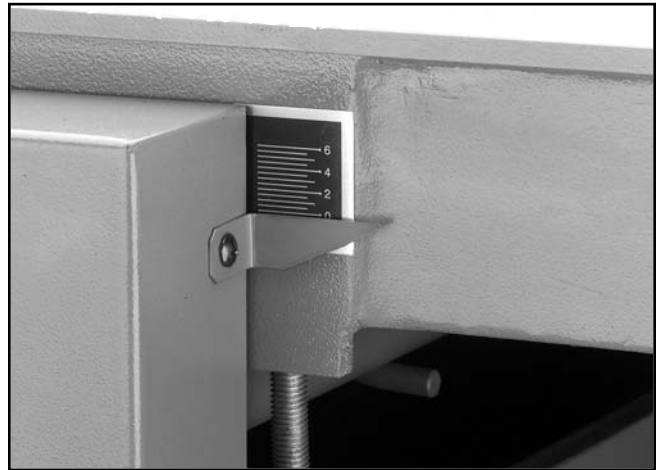

Figure 45. Depth-of-cut pointer adjusted to “0” position.
8. Loosen the depth-of-cut pointer screw and adjust the depth pointer to the “0” position as shown in **Figure 45**.